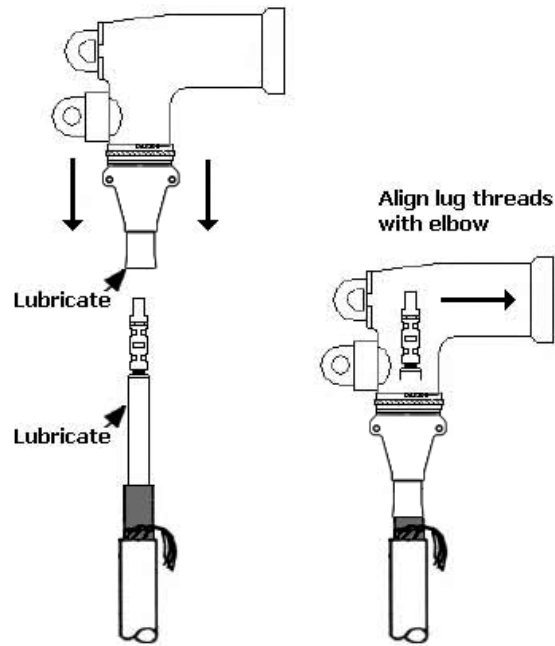

Fig. 8 - Lubricate, Install, & Align Elbow
B. Slide the elbow onto the cable, the final seating of the elbow should align elbow and threaded portion of lug. Wipe off excess lubricant that may form at bottom of elbow. See Figure 8.